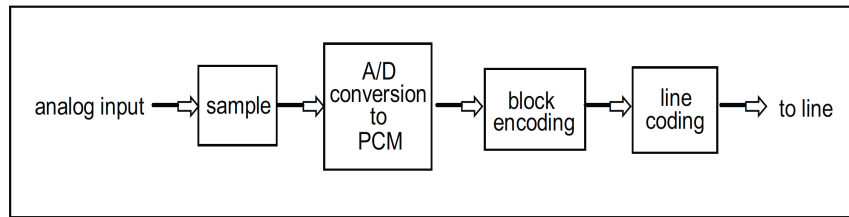
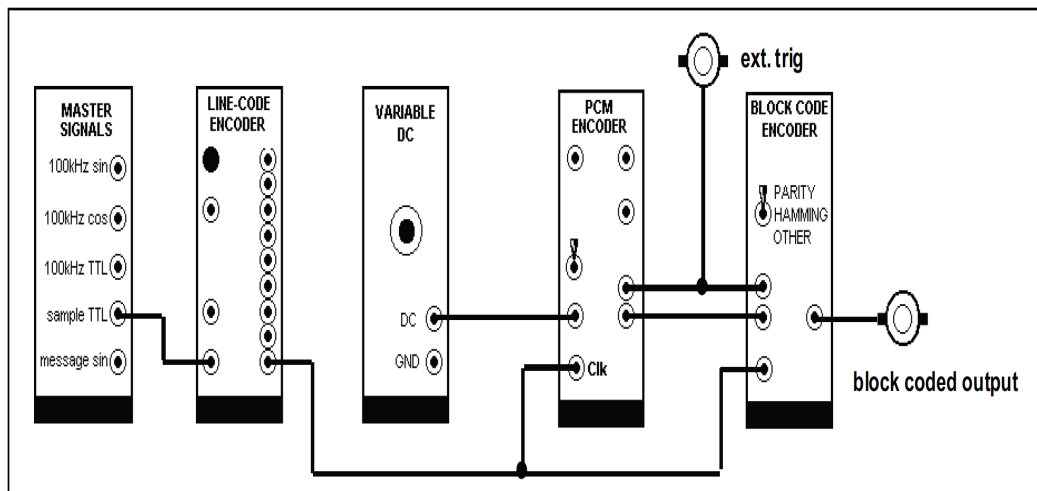

Figure 4.2: The system using block encoder
Figure 4.3: The system using block encoder
The block digram of this experiment is shown in Fig. 4.2
2. patch up the model in Fig. 4.3 which is equivalent to Fig. 4.2